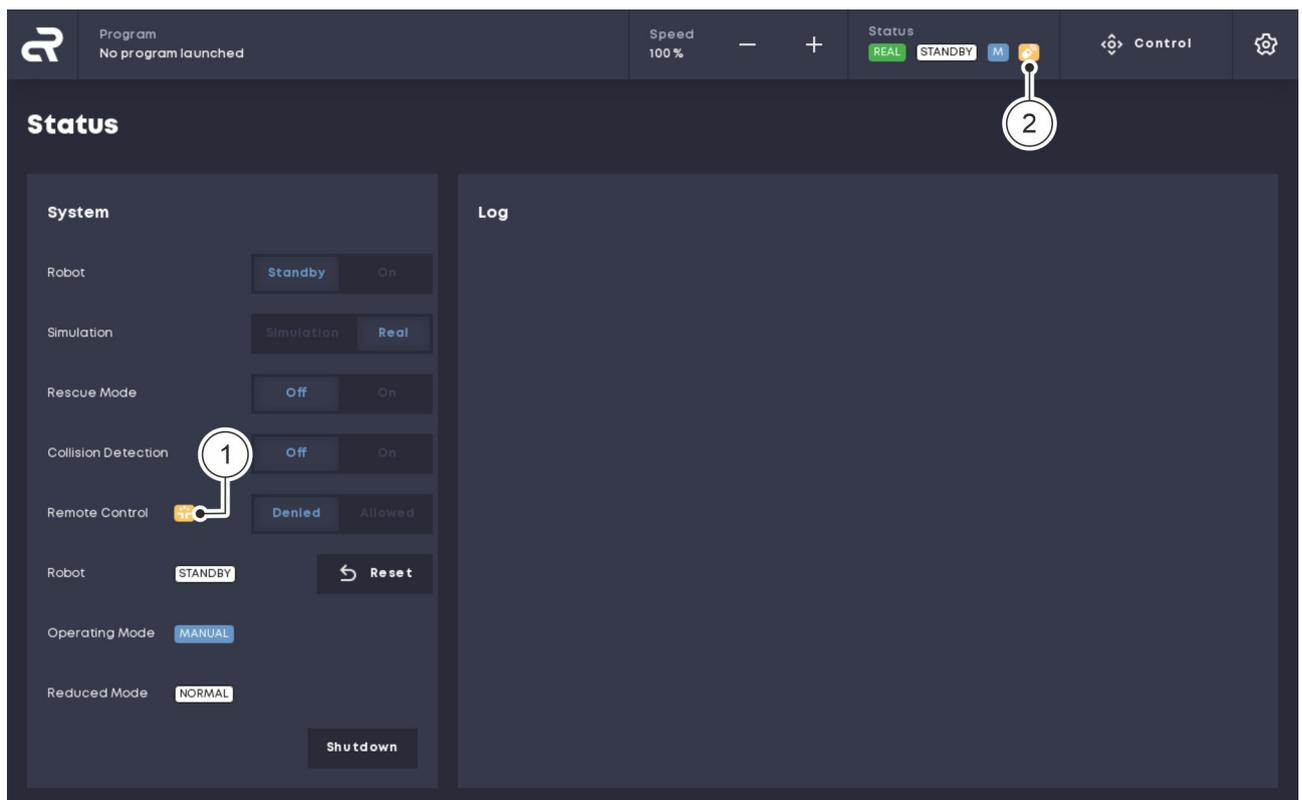

Fig. 47 Overview of symbols
- Icon in the 'Status' menu Fig. 47 / ①
- Icons in the status display Fig. 47 / ②